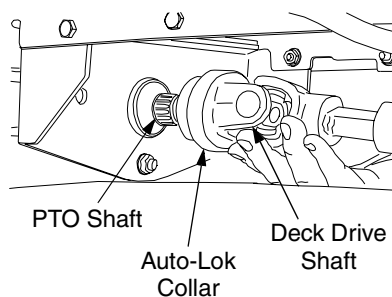

Figure 34
3. Support the deck drive shaft to prevent it from dropping; then pull the auto-lok collar rearward and slide the drive shaft off of the PTO shaft (See Figure 34).